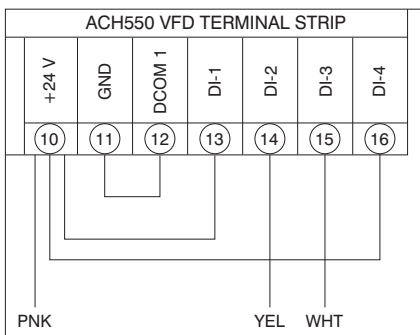

Fig. 25 — ACS550 VFD Wiring
- For ACH550 VFDs the voltage is sourced from the VFD at its terminal 10 (+24 V). SAV speed inputs are received at terminals 14 (DI-2) for low speed (40 Hz) motor operation and 13 (DI-3) for high speed (60 Hz) motor operation. See Table 13 and Fig. 25 (on page 17).